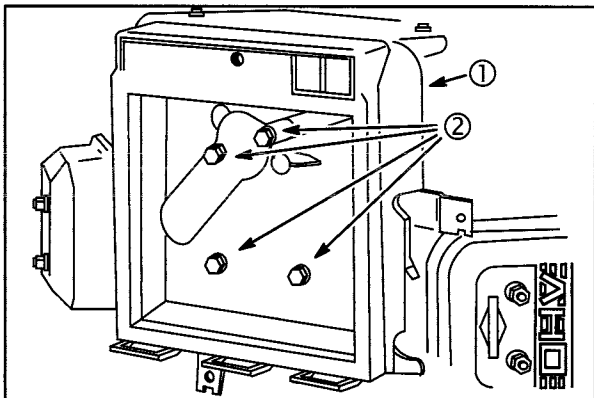

**Fig. 37**
**Current Style: (Round cartridge) Fig. 37.**
1. Install new air cleaner base gasket (6).
2. Guide breather tube (5) onto nipple on breather and install air cleaner base on carburetor mounting studs.
3. Install carburetor mounting nuts (2). Do not tighten nuts at this time.
4. Install breather deflector (4) and three screws (3). Torque nuts and screws to **65 in. lbs. (7 Nm)**.